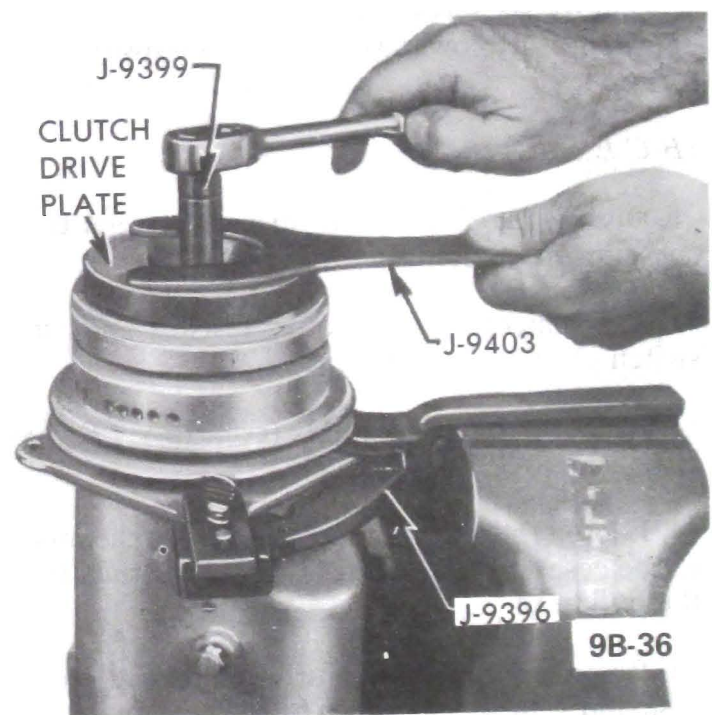

Figure 9B-41 Removing or Installing Shaft Nut
1. Firmly clamp holding fixture (J-9396) in a vise and attach compressor assembly to fixture (see Figure 9B-41).